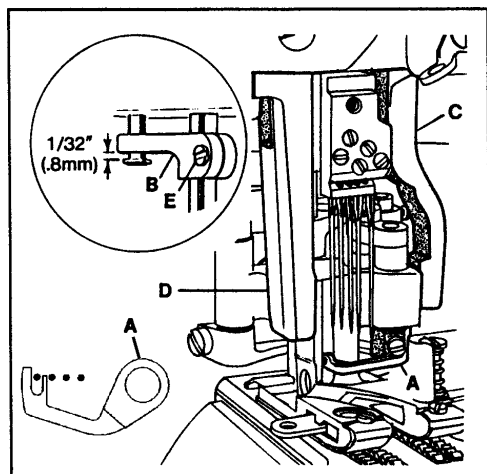

FIG. 20
Remove the presser bar regulating screw and the presser spring. Raise the needle bar to its highest position and remove the retainer. As the foot is slipped under the needles, swing the upper knife into the opening on the right side of the foot and slide the linkage onto the hook driving sleeve. Insert the presser bar through the linkage and into the presser foot shank. Tighten presser foot screw. With the presser bar inserted properly into the presser foot, position the foot left to right so the finger of cover thread carrier (A, Fig. 20) is between the first and second needles. Set presser bar guide (B, Fig. 20 Inset) so foot will not move. Set right presser foot guide (C) and left presser foot guide (D) to maintain setting. Loosen presser bar guide screw (E Fig. 20 Inset) and check to see that foot has vertical freedom with no right to left play, no bind. Put the needle bar in its lowest position, and set 1/32" (0.8mm) above head of presser bar guide stud. Tighten presser bar guide screw (E).
Turn the handwheel in operating direction until link (A, Fig. 20) has traveled fully to the front. There must be a  $1/64$ " (0.4mm) clearance between link (A) and the back of needle bar (B) when link (A) starts to jackknife. Loosen screw (C) and rotate driving sleeve (D) to position link (A). Tighten screw (C).